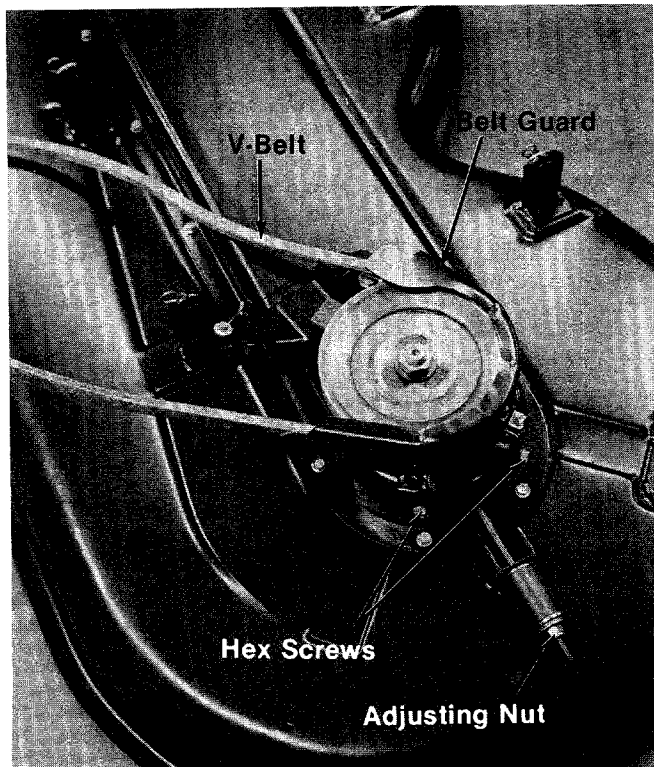

FIGURE 34.
1. Remove the two hex screws holding the belt guard to the timing belt cover. (See figure 34.)
1. Remove the belt guard and drive pulley. (See figure 34.)